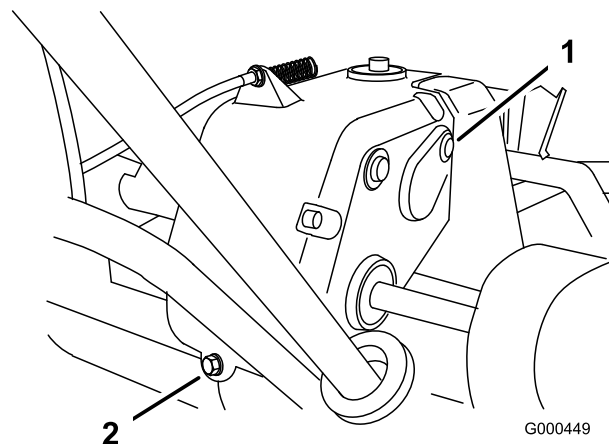

Figure 30
- Remove the drain plug from the rear of the transmission (Figure 30).
- Push down on the handle and tip the machine back. Remove the check/fill plug from the right-hand side of the transmission (Figure 30).